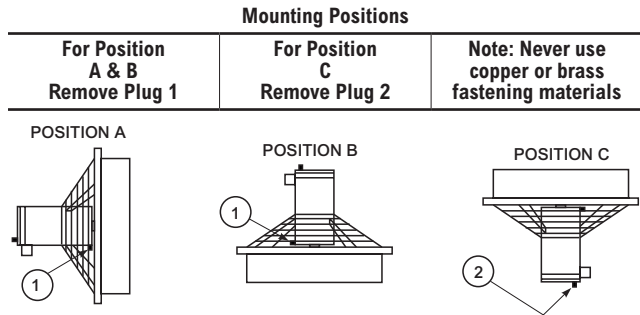

Figure 3
10. Remove proper condensation plug. See Figure 3 below. Do not discard. Plug is to be used during cleaning.
CLEANING — When cleaning fan, both condensation holes (Figure 3, Items 1 and 2) are to be temporarily plugged. If this is not done, guarantee is void. When cleaning electrical equipment, always use an approved cleaning agent.
3. Figure 3 — Lubricate the rubber seal ring. Insert the tube into the fitting body past the rubber seal ring.